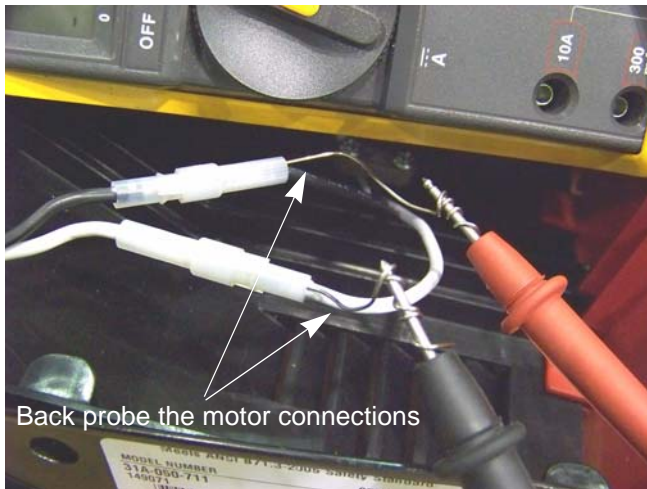

Figure 2.12
5. Back probe the motor side of the motor harness connectors. See Figure 2.12.
NOTE: Paper clips can be inserted into the back side of the connectors and used as extensions for the DMM probes. See Figure 2.12.